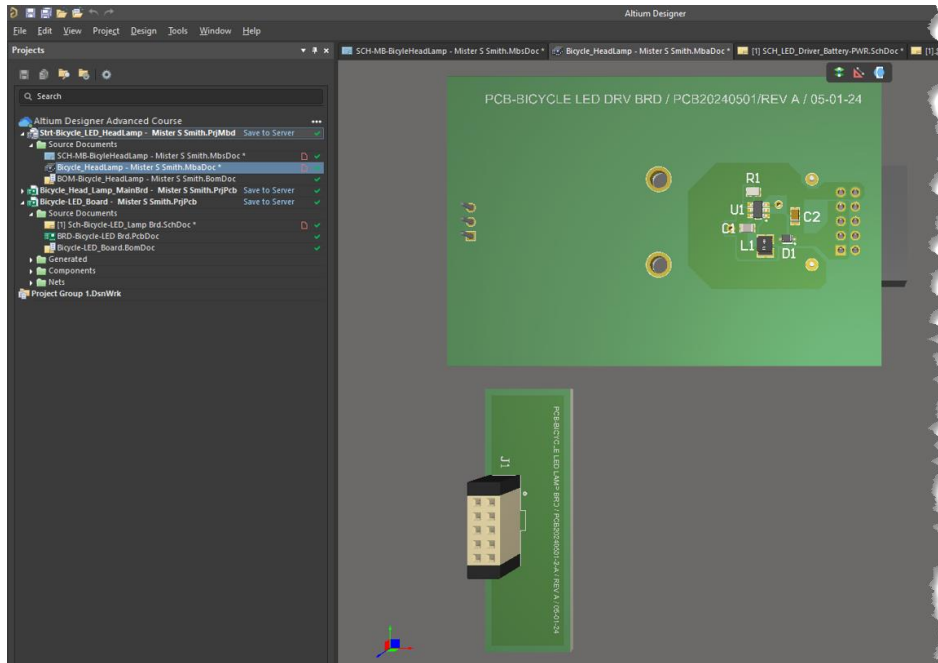

Figure 24. First look at the MB Assembly File
56. Figure 24 shows the initial view of your two boards from the MB Assembly file.